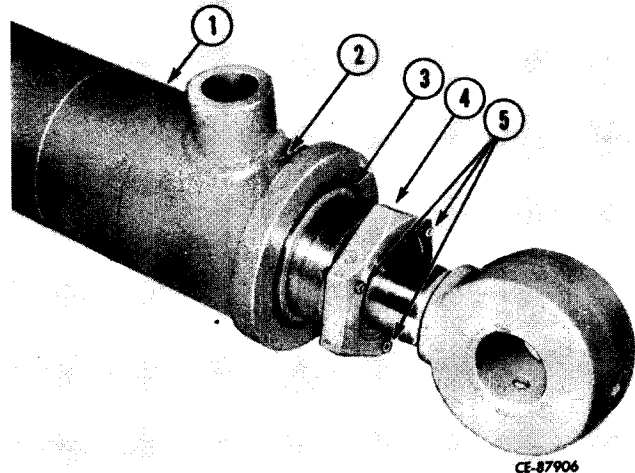
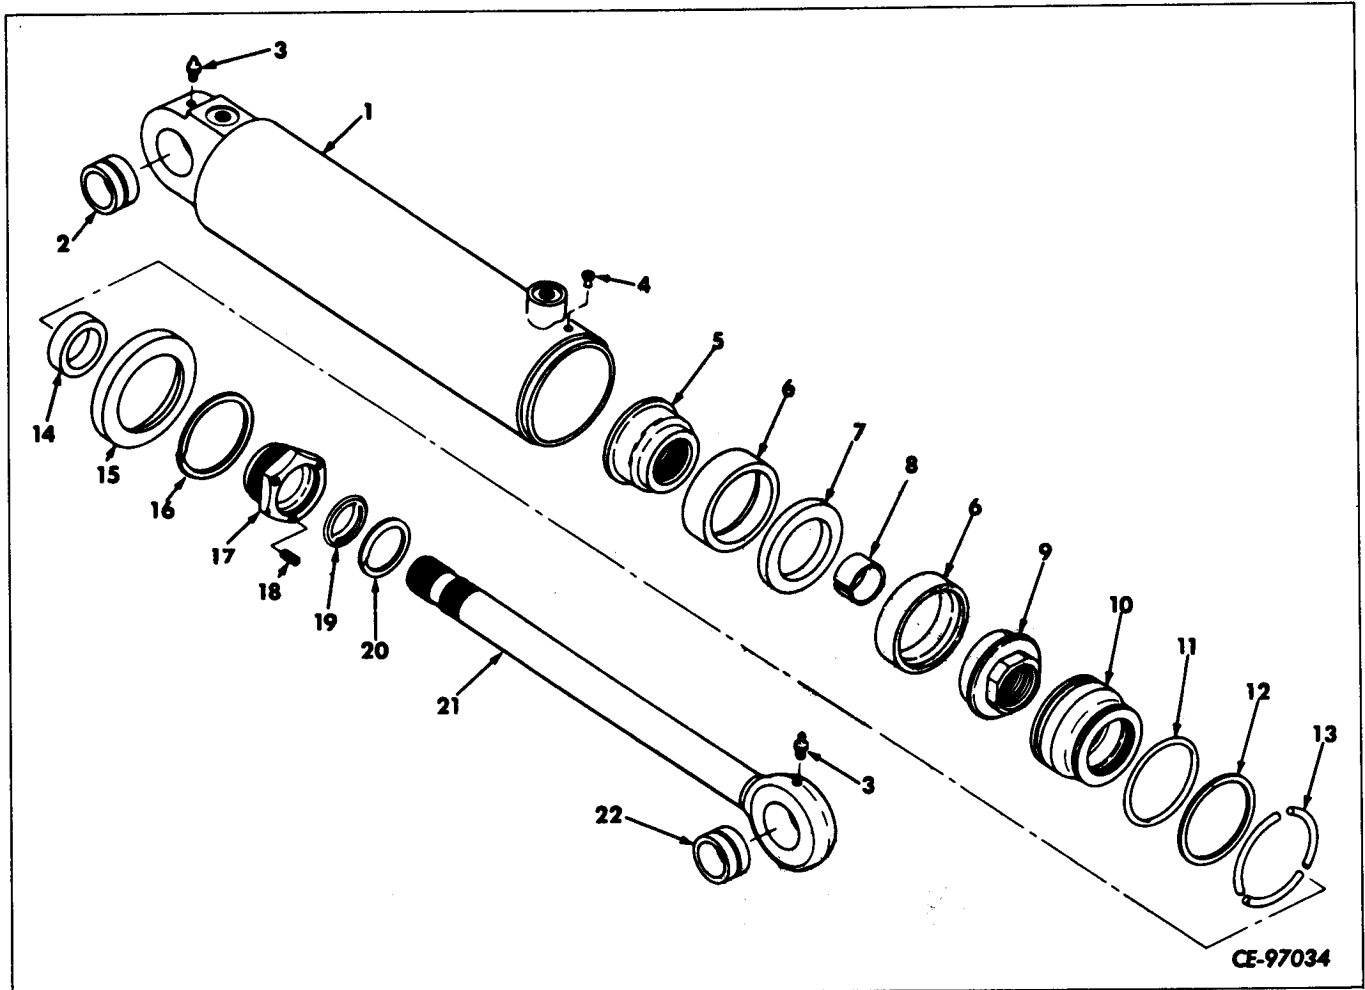

Figure 11-101a
Figure 11-101c
Loosen set screws (5, Fig. 11-101a) and remove rubber plug (2).
Rotate cylinder cap (10, Fig. 11-101c) until hole in cap is aligned with plug hole (2, Fig. 11-101a) in cylinder. Insert a steel rod or punch in holes to prevent cap from turning and remove packing nut (4). Remove retaining ring (3).
Remove piston half (5, Fig. 11-101c) by unscrewing it from rod. Remove bearing (7). Thread remaining piston half (9) further onto rod until it clears plastic lock ring (8). Remove and discard lock ring.
Insert new rod packing (14, Fig. 11-101c) into cylinder cap (10), one ring at a time. Use a wooden stick with smooth, rounded edges to press new packing into place. The point of the "V" of each ring must point toward threaded opening of cylinder cap.